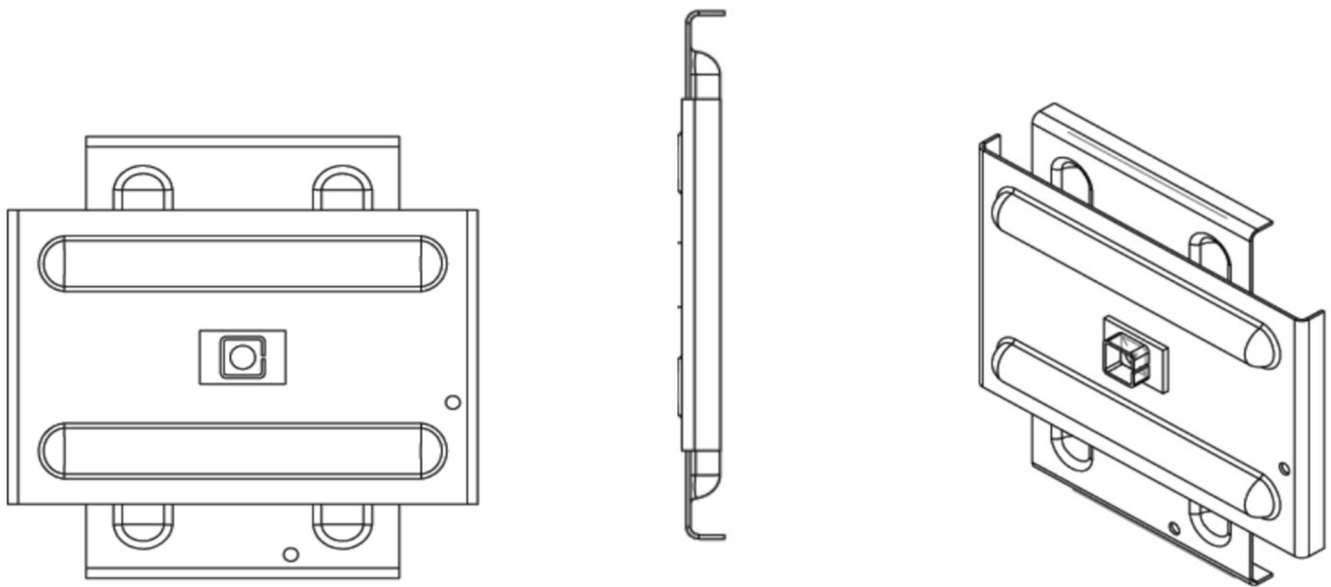

FIGURE 4—EXTERIOR SOIL ANCHOR
**3.4 Exterior Soil Anchor:** The exterior soil anchor is part of an assembly made from two (2) pieces of formed steel plate. See Table 2 for specifications. The exterior soil plate is hot-dipped galvanized in accordance with ASTM A123M and as illustrated in Figure 4.